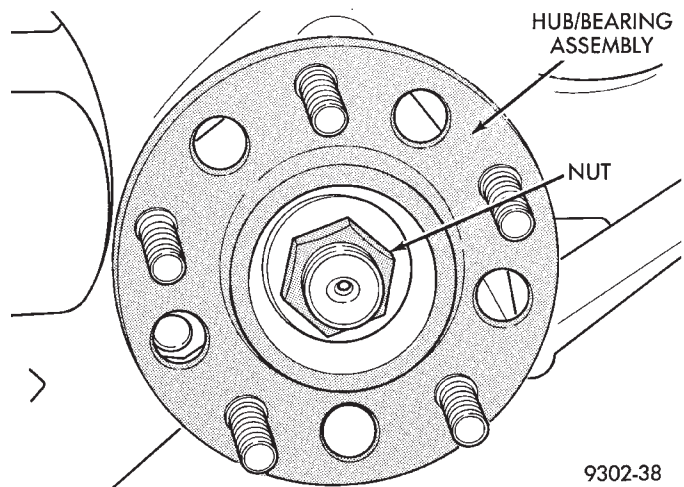

Fig. 56 Hub And Bearing Retaining Nut
(5) Remove the hub and bearing retaining nut (Fig. 56).
CAUTION: The hub and bearing assembly to stub shaft retaining nut (Fig. 56) is a prevailing torque nut and can not be re-used. A **NEW** retaining nut **MUST** be used when assembled.
(3) Install a **NEW** hub and bearing assembly to stub shaft retaining nut (Fig. 56). **Tighten, but do not torque the hub nut at this time.**